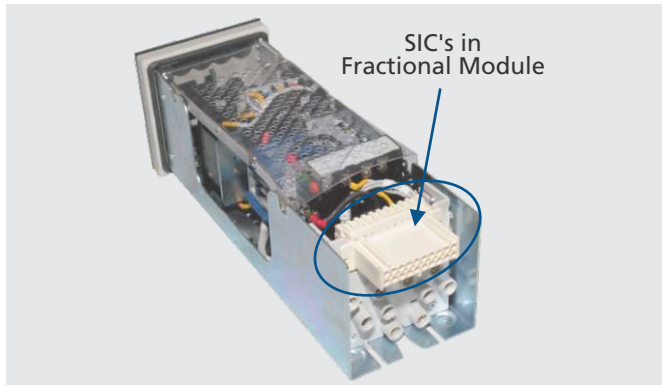

Figure 24 - SICs in a fractional module
14. SIC Mounting in Fractional modules Figure 24.